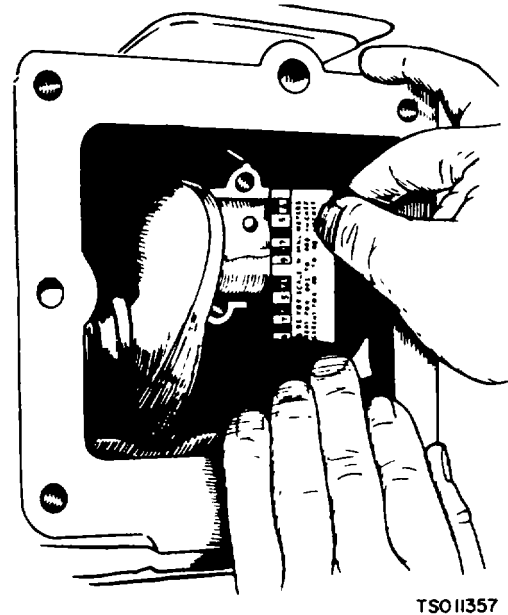

Figure 6-24. Measuring Bearing Clearance With Plastigauge
(1) Assemble ring compressor tool Onan Part No. 420-0214 over piston rings.
(2) Install the piston and connecting rod assembly in cylinder. Back off compression ring tool from piston as each ring enters crankcase.
(3) Install the connecting rods (197) and caps with raised lines (witness marks) aligned and with the caps facing toward the oil base. The rod and cap numbered 2 fits on the crankshaft journal nearest the bearing plate.
(4) Coat the crankshaft journal bearing surfaces with oil before installing the rods.
(5) If necessary, rap the connecting rod cap screws (196) sharply with a softfaced hammer to set the rod square on the journal.
f. Checking Bearing Clearance With Plastigauge (figure 6-24).
(1) Place a piece of correct size plastigauge in the bearing cap the full width of the bearing insert about 1/4 inch (.64cm) off center.
(2) Rotate the crank about 30 degrees from bottom dead center and reinstall the bearing cap. Tighten the connecting rod screw (196) to the torque of 27-29 pounds-foot (37-39 Newton Meters). Do not turn the crankshaft.
(3) Remove the bearing cap. Leave the flattened plastigauge on the part to which it has adhered and compare the widest point with the graduations on the plastigauge envelope to determine bearing clearance.